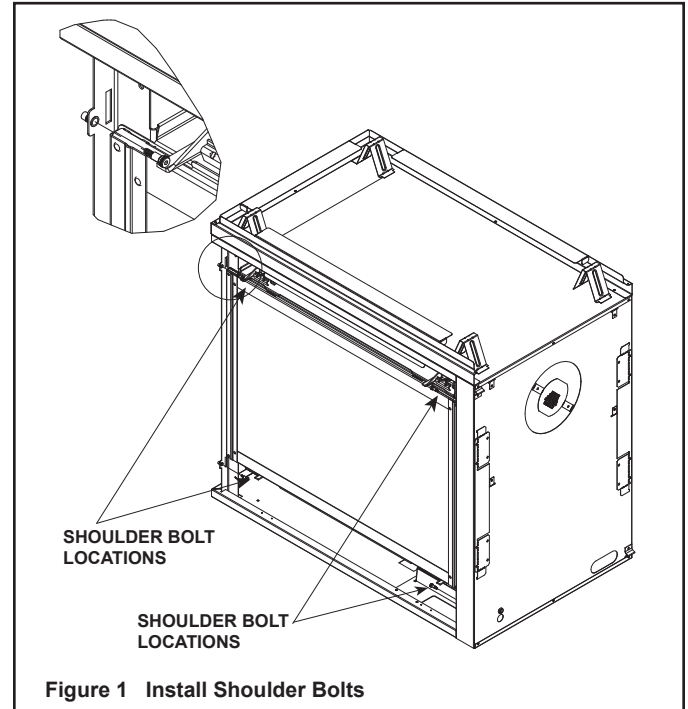

Figure 1 Install Shoulder Bolts
2. Install 4 shoulder bolts on each side of appliance. See Figure 1. Shoulder bolts are supplied with decorative fronts.